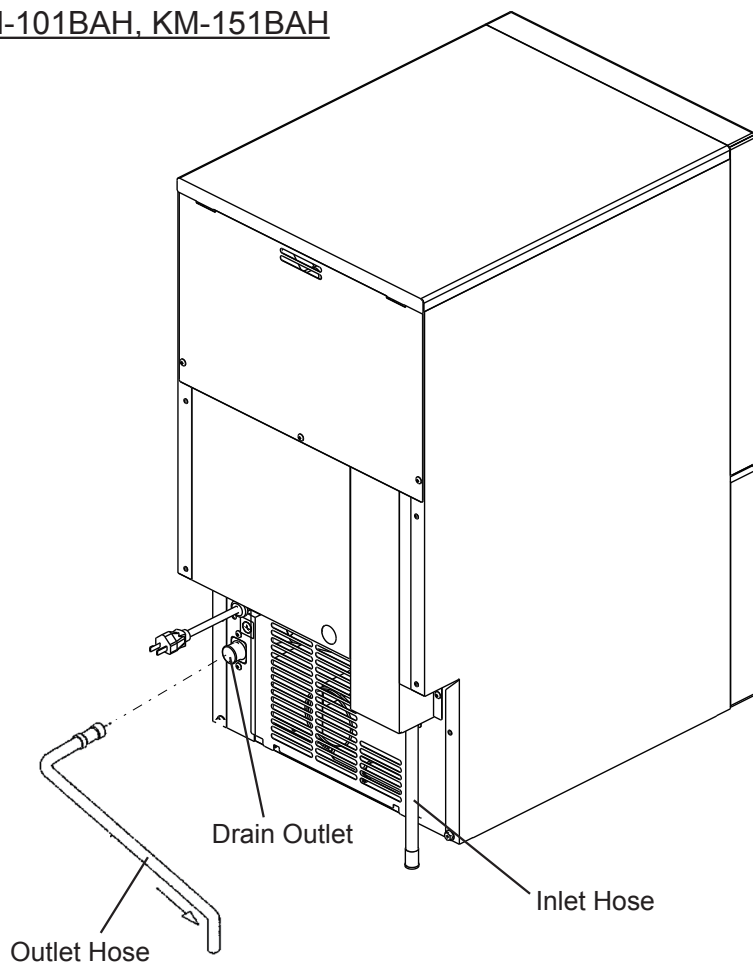

Fig. 5
- 2) Hand tighten grey flexible outlet hose (accessory) onto the fitting on the rear of the icemaker as indicated (Figs. 5 and 6), ensuring rubber sealing washer is correctly positioned to obtain a leak free joint. The pipe can be cut to length as necessary to suit position of main drain. To prevent water leaks, secure the outlet hose to the drain outlet by using a hose band.